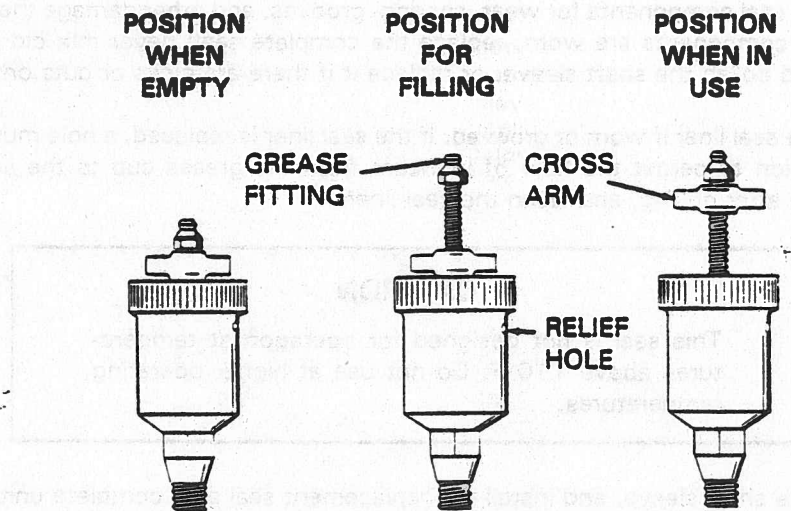

Figure 4. Automatic Lubricating Grease Cup
Before removing the seal assembly, turn the cross arm on the seal grease cup (12) clockwise until it rests against the cover (see figure 4). This will prevent the grease in the cup from escaping after the seal is removed.
Before starting the pump, fill the grease cup through the grease fitting with a good grade of No. 2 pressure gun grease until grease escapes from the relief hole. Turn the grease cup arm counterclockwise until it is at the top of the stem; this will release the spring to apply grease to the seal (see figure 4).